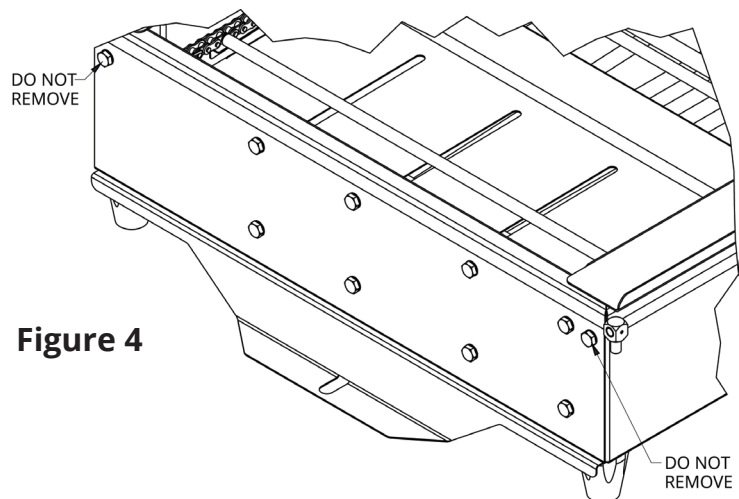

Figure 4
2. Remove the eight interior bolts and washers from the infeed end of the fryer case and discard. **DO NOT REMOVE THE OUTERMOST TWO BOLTS.** See Figure 4.